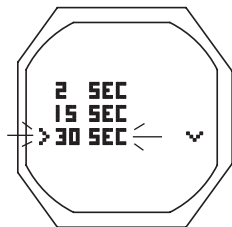

Fig. 55 - SET SAMPLING RATE
**Set Sampling**, information includes (Fig. 55):